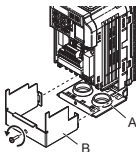

Figure 3.10 Remove the Terminal Cover on an IP20/NEMA Type 1 Drive
2. Loosen the screw on the terminal cover (Figure 3.10, B) to remove the terminal cover and expose the conduit bracket (Figure 3.10, A).